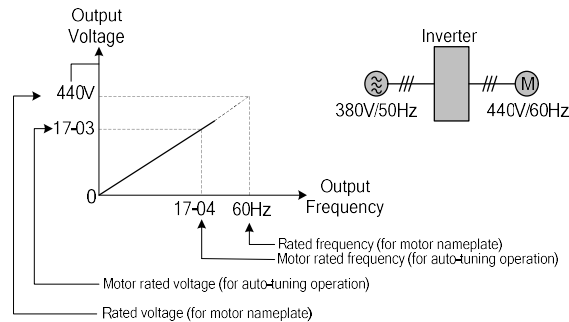

Figure 4.3.138 Rated Voltage and Frequency Settings
- ⑤. Set Time Period 4 (P4)
- ⑥. Use Parameter 16-32 (Timer 1)
- ⑦. 16-36 RTC Speed Selection via Timer 1: Set Parameter 16-36 (Speed Selection) to 1: Selected by Timer 1. When Timer 1 is active, the frequency corresponds to Preset Speed 0. Set Parameter 16-37 (Run Direction Selection) to 0000b, so the run direction for Time Periods 1 to 4 (P1~P4) corresponds to the settings of 16-37.
- ⑧. To select two preset speeds (Speed 1 and Speed 2), set Parameter 16-36 (RTC Speed Selection) to 5: Selected by Timers 1 + 2. When Timer 1 is active, the frequency corresponds to Preset Speed 1 (Parameter 05-02); when Timer 2 is active, it corresponds to Preset Speed 2. Set Parameter 16-37 (Run Direction Selection) to 0000b, so when Timers 1 and 2 are active, the motor will run forward.
- Before using the offset time function, make sure to select RTC Offset (Parameter 16-30) and set the RTC Offset Time (Parameter 16-31). The inverter will follow the configuration defined by the time period-to-counter assignment function, which varies depending on the setup. Refer to Figure 4.3.138 below for the configuration of time period assignment to counters.